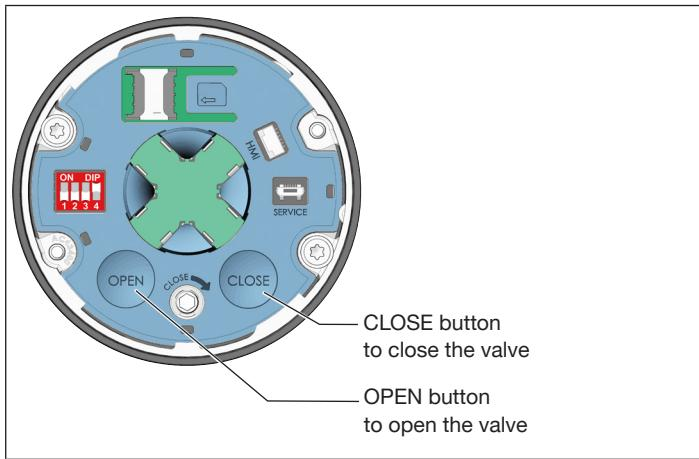

Fig. 27: Electrical manual override for devices
- Open and close the valve using the OPEN and CLOSE button (see "Fig. 27").